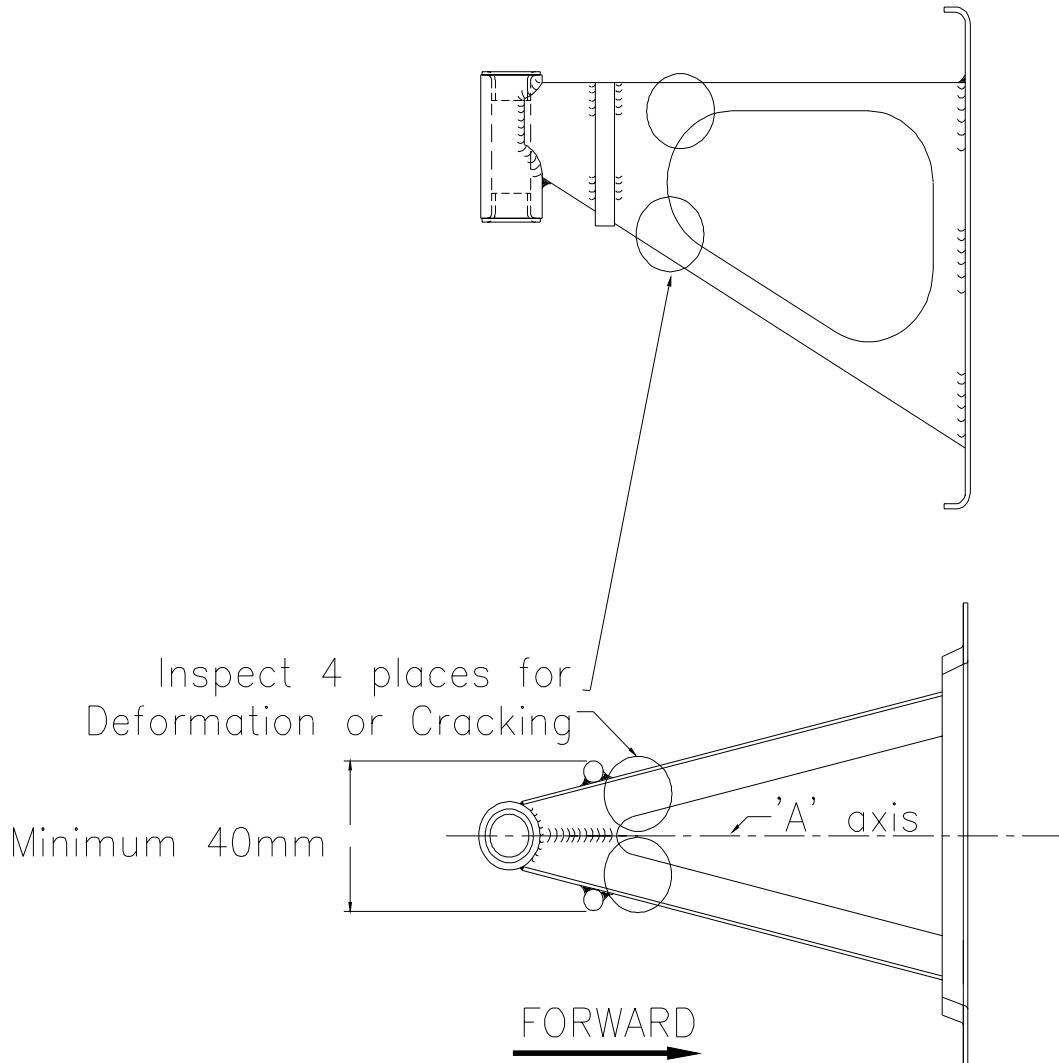

Figure 1.
- 10.1.2 Use a flashlight and suitable inspection mirror to examine the entire 'Rudder Support Bracket' for damage, paying particular attention to the area around the rudder stops as shown in figure 1.
- a.) Check that the rudder tower has remained symmetrical along the 'A' axis as depicted in figure 1.